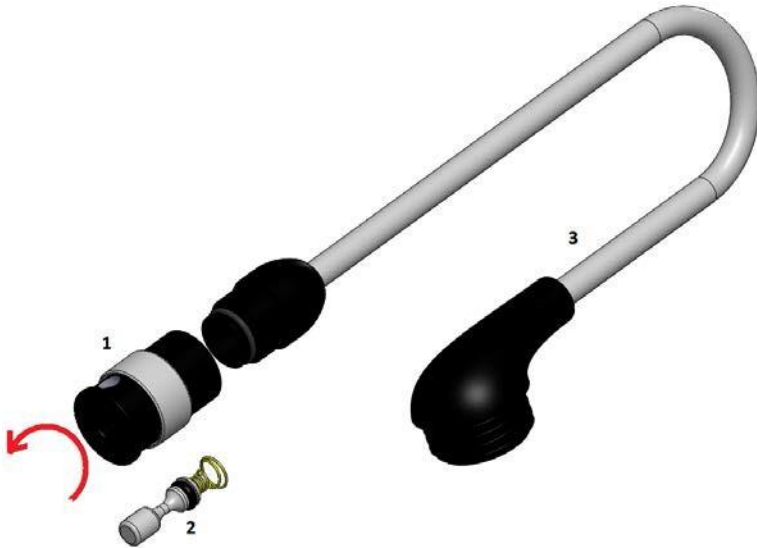

Figure 15
The Nozzle contains of 3 main parts. In order to separate the valve house (1) and the Nozzle (3), turn the Valve House counter clockwise see Figure 15. Be careful when the two parts are separated, the Valve Piston (2) will easily fall out.